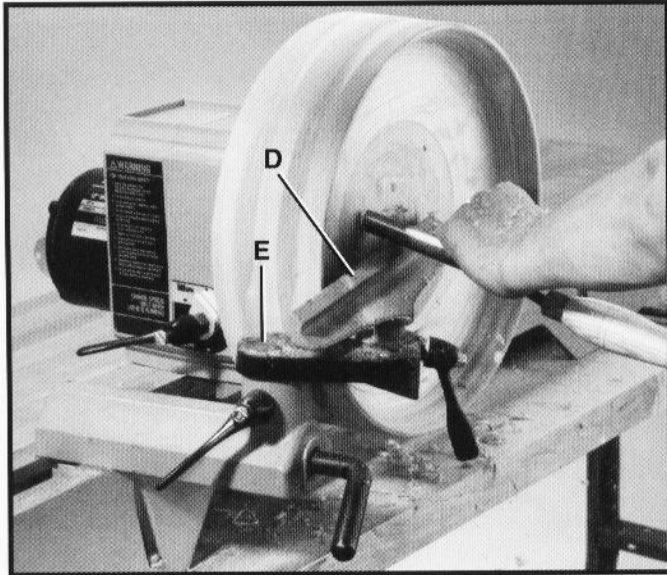

Fig. 90
4. Fig. 90, illustrates the standard equipment tool rest (D) being used along with the accessory 46-706 off-set base extension (E) to perform the inside turning operation.